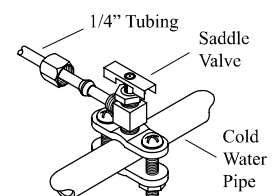
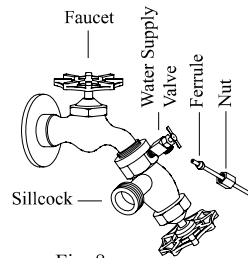

Fig. 7
Fig. 8
- **Connect water supply line.** Find the closest supply of water. Use a saddle valve (Fig. 7) to connect 1/4" tubing to the cold water supply or use a Sillcock and water valve connected to an outside faucet (Fig. 8). Place the nut and ferrule on the tubing and tighten the nut until water tight. **IMPORTANT:** Do not connect the water supply to any soft water applications. Soft water will cause corrosion and decrease the life of the cooler.